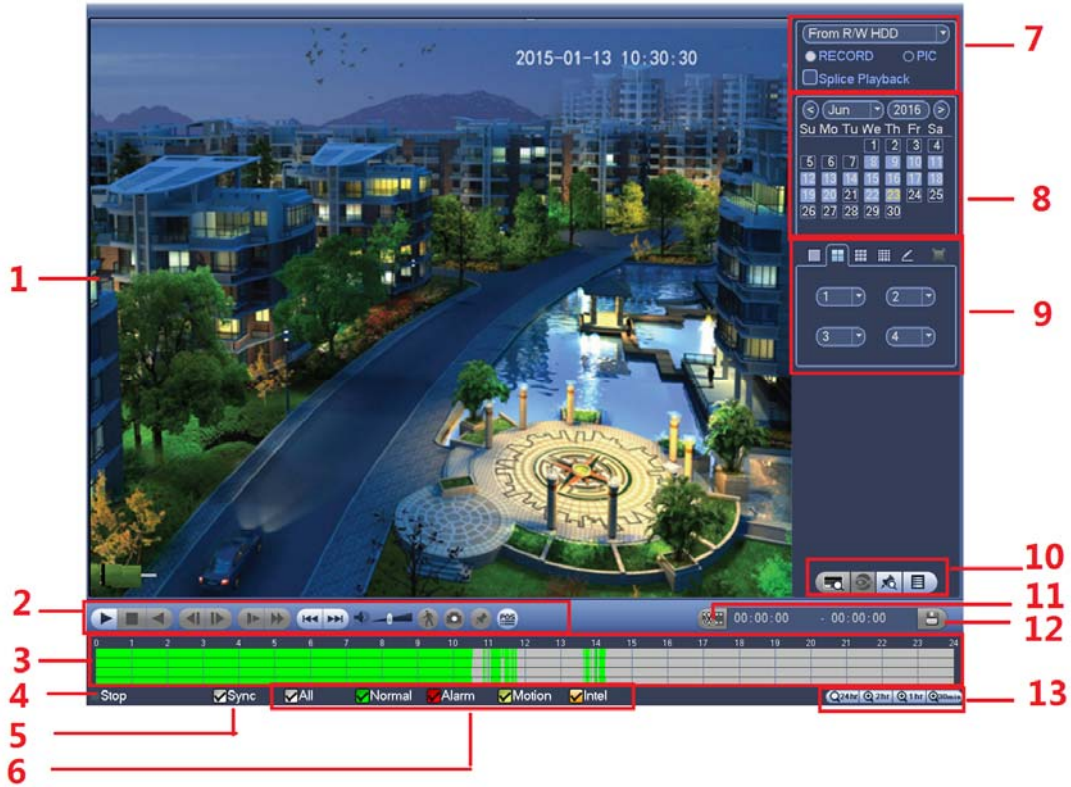
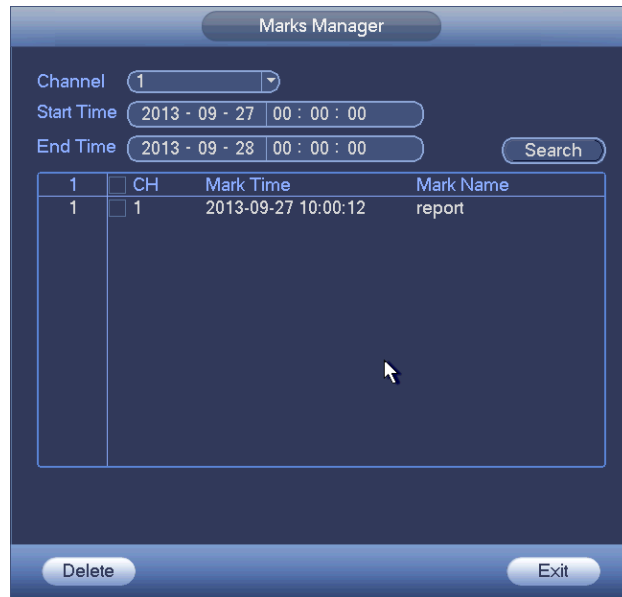

Figure 4-84
Figure 4-91
Click search button in the main menu, search interface is shown as below. See Figure 4-84.
**Please make sure your purchased device support this function. You can use this function only if you can see the mark playback icon on the Search interface (Figure 4-84).**
During 1-window playback mode, click mark file list button  in Figure 4-84, you can go to mark file list interface. Double click one mark file, you can begin playback from the mark time.
Click the mark manager button  on the Search interface (Figure 4-84); you can go to Mark Manager interface. See Figure 4-91. System can manage all the record mark information of current channel by default. You can view all mark information of current channel by time.